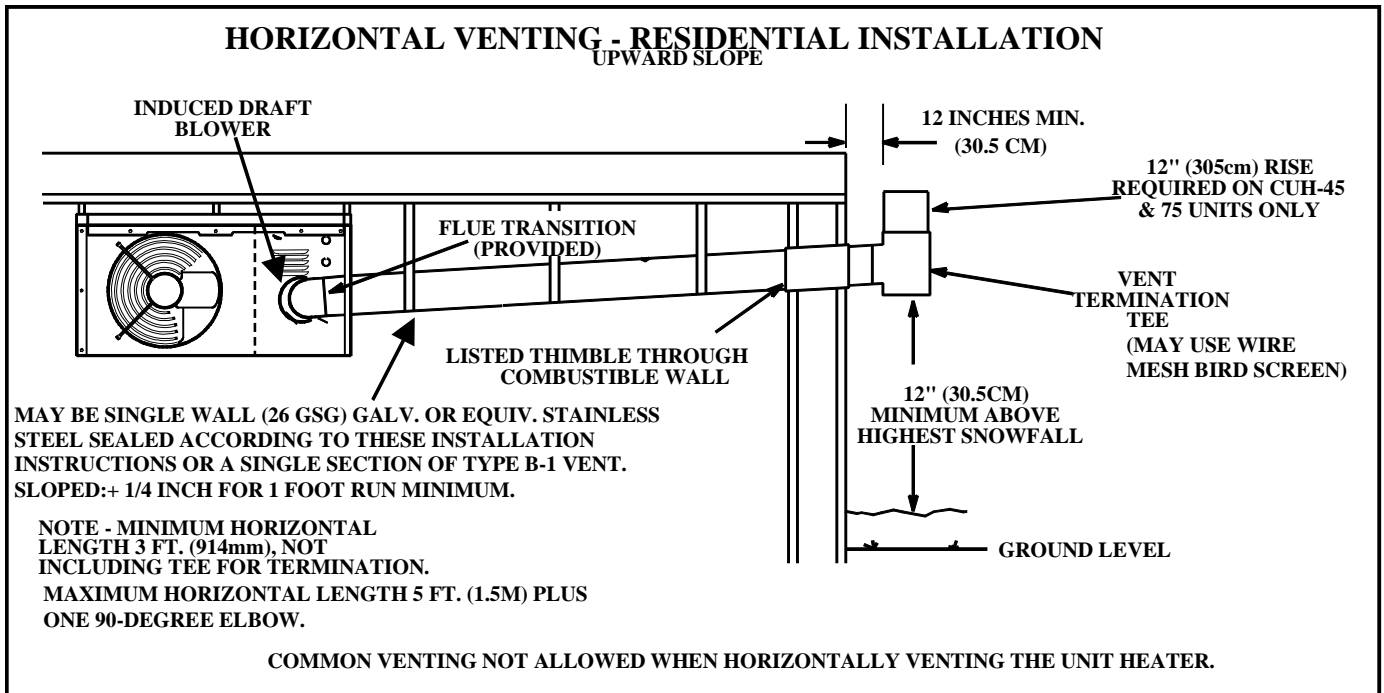

FIGURE 6
1- For horizontal residential installations these units are certified as Category I appliances. The vent may be single wall material minimum 25 GSG (0.46 mm) galvanized steel or equivalent grade stainless steel or a single section of type B-1 vent installed according to the sections **Venting A - General Recommendations and Requirements** and **C - Horizontal Venting General** and **E - Horizontal Venting - Residential**. Refer to Figure 6.
- 5- 45 & 75 units must terminate with a 12" (300 mm) vertical rise at the tee termination. Refer to Figure 6.